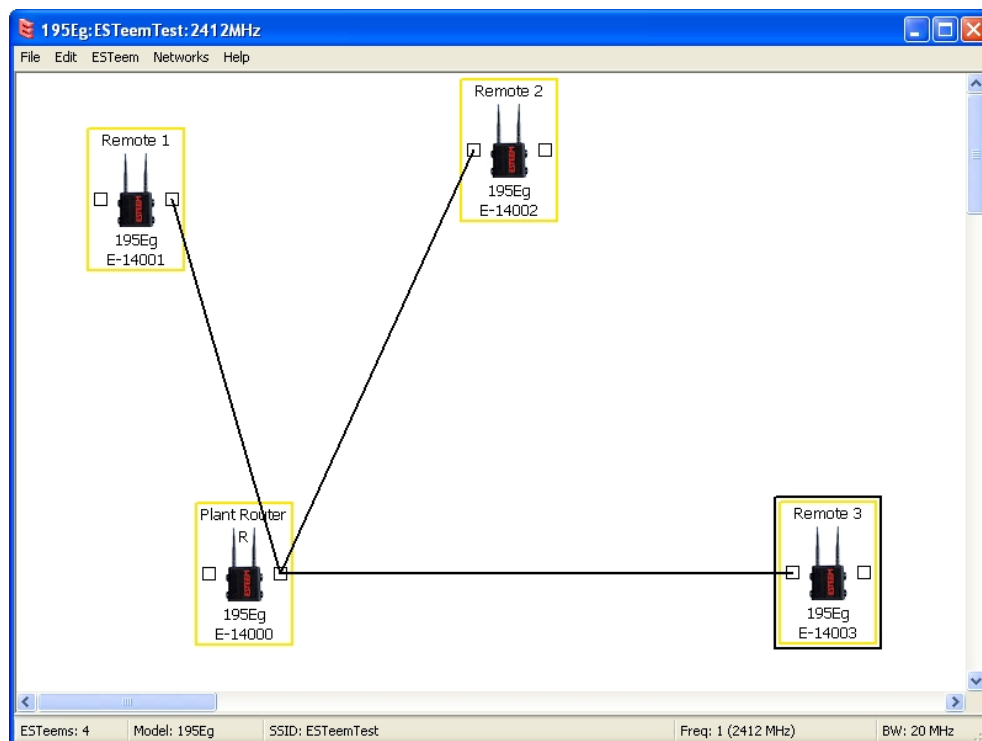

Figure 19: Router Example Layout
2. Move the ESTeem 195E icons on the screen to simulate the layout of the diagram. Draw connection lines between the wireless links modems in the same order as the network layout (Figure 19).